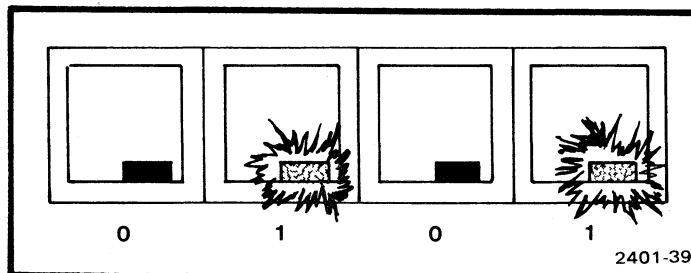
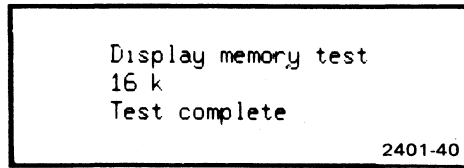

Figure F-9. Function key lights during fifth part of test.
Figure F-10. Display after part five of test.
7. Press any key on the keyboard; this advances the 4025 to part five of the test. The lighted function keys will display the binary numeral (0101) for the number five, as shown in Figure F-9. Strange patterns appear on the screen as the 4025 checks its display memory. When the test is complete, the screen should erase and display a message like that in Figure F-10. The middle line tells the amount of display memory installed in the 4025.